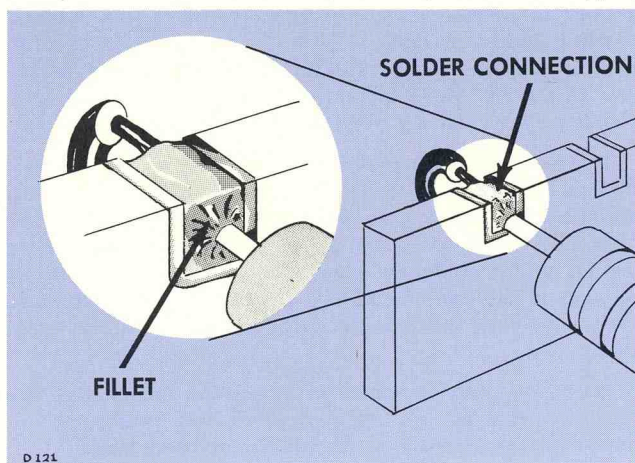

Fig. 4-3. Fillet on wire
6. Do not attempt to fill the notch on the strip with solder; instead, apply only enough solder to cover the wires adequately, and to form a slight fillet on the wire as shown in Fig. 4-3.